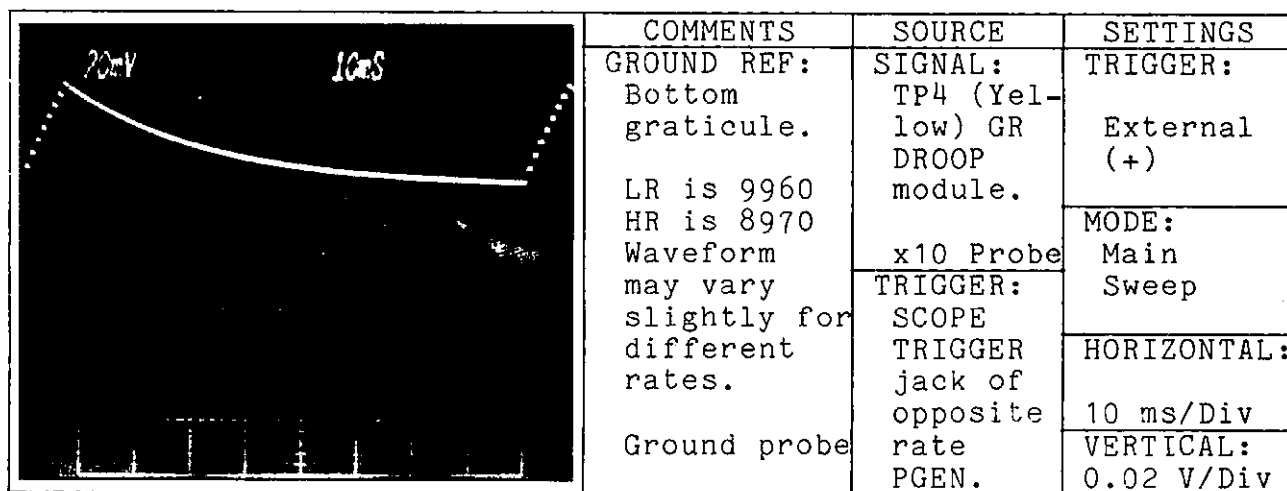

Figure 2.25. Opposite Rate Ladder Waveform
g. Adjust R1 counterclockwise until a ladder waveform appears (see Figure 2.25) and its peak reaches +1.4VDC. Adjust R12 clockwise until the decay of the ladder waveform reaches the DC level recorded in step f. just before the start of the next ladder waveform. While adjusting R12, it will be necessary to readjust R1 to maintain the peak of the ladder waveform at +1.4VDC.